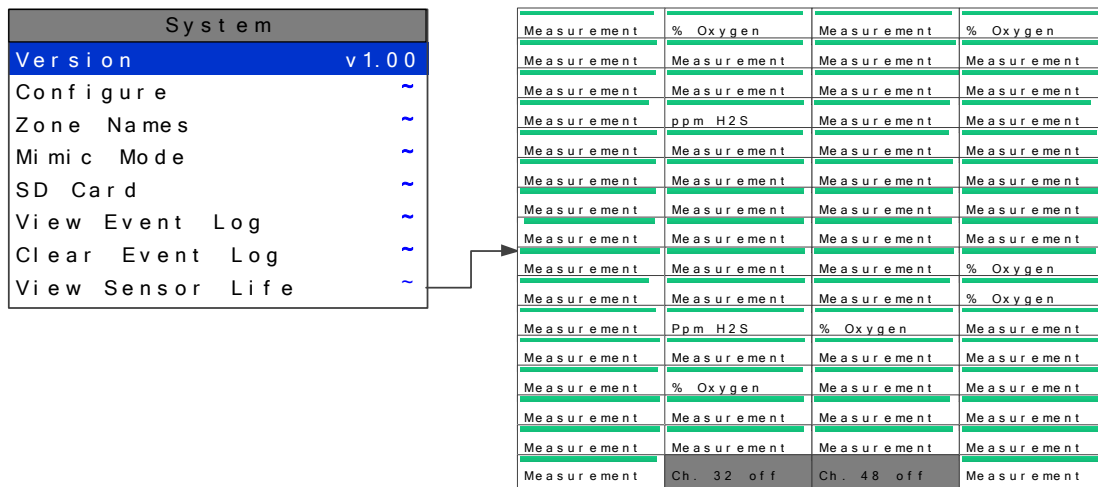

Figure 2-37
**Sensor Life** is available when at least one channel has **Sensor Life** activated in the **Marker menu** (see section 2.4.4.5). The **Sensor Info** screen displays each channel's sensor status as illustrated in Figure 2-37. Channels with **Sensor Life** disabled are indicated by **Ch. # Disabled** below the bar. **Cal Required** indicates no Calibration Marker value has been received by the BFC-64.